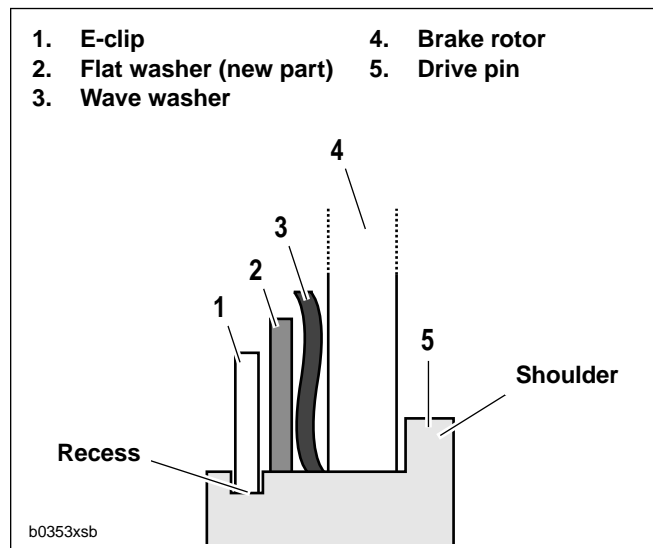

Figure 1. Updated Drive Pin Assembly
See Figure 1. Dealers should inspect all 1997 model year motorcycles in their inventory. For each vehicle without a flat washer (2) installed between the wave washer (3) and E-clip (1), order an ANTI-RATTLE KIT (Part No. 42577-97Y).
- a. Place a 3/4 in. open end wrench in the E-clip's (1) opening.
- d. See Figure 1. Remove and discard wave washer (3).
5. See Figure 1. Install anti-rattle kit components.
- a. Hold drive pin (5) between rotor and rotor carrier.
- b. Place a **new** wave washer (3) on drive pin.
- c. Install a **new** flat washer (2).